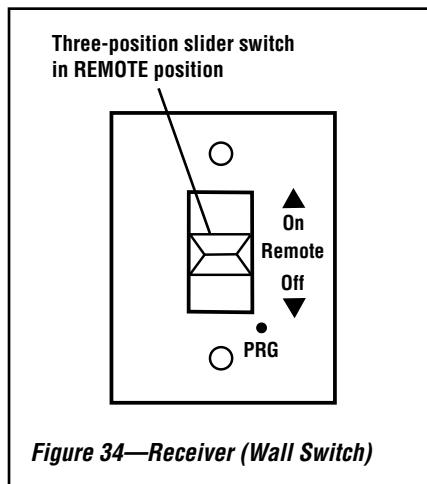

Figure 34—Receiver (Wall Switch)
4. Insert the three (3) provided AAA batteries into the battery bay in the transmitter, taking care to correctly align polarity (+ -).
5. Insert the four (4) provided AA batteries into the receiver battery bay (behind the wall switch plate), taking care to correctly align polarity (+ -).
6. On the receiver, place the three-position slider switch in the REMOTE position (**Figure 34**).